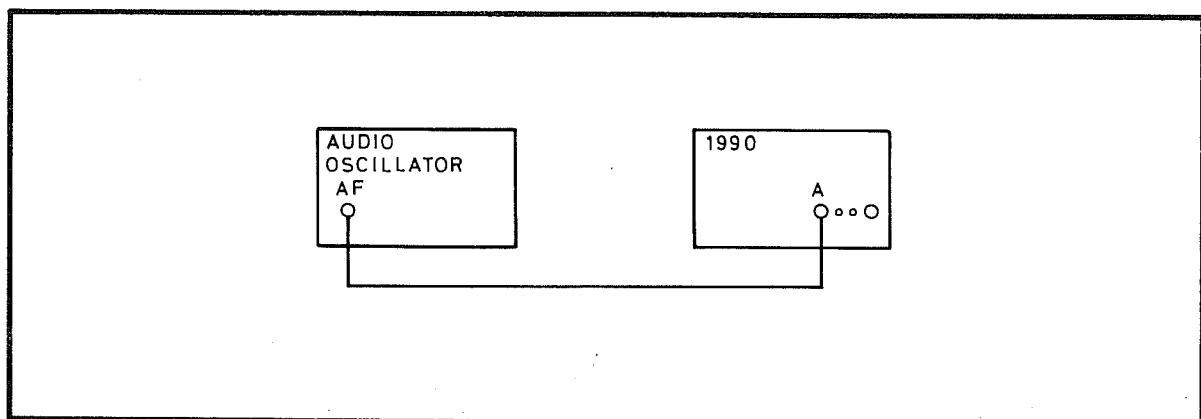

Fig 7.18 Connections for Channel A Sensitivity PVP (Part 2)
- (1) Connect the test equipment as shown in Fig 7.18.
- (2) Set the audio oscillator output to the frequencies shown in Table 7.7 in turn. Set the 1990 resolution to the corresponding value.
- (3) At each frequency, determine the minimum input level to the 1990 that gives stable counting. Verify that this is not more than the level shown in the table.
- (4) Disconnect the test equipment.